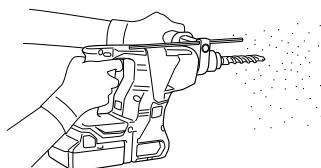

Fig. 15
- (1) Mount the drill bit.
- (2) Pull the trigger switch after applying the drill bit tip to the drilling position (Fig. 15).
- When the drill bit touches construction iron bar, the bit will stop immediately and the rotary hammer will react to revolve. Therefore please grip the side handle and handle tightly as shown in Fig. 15.